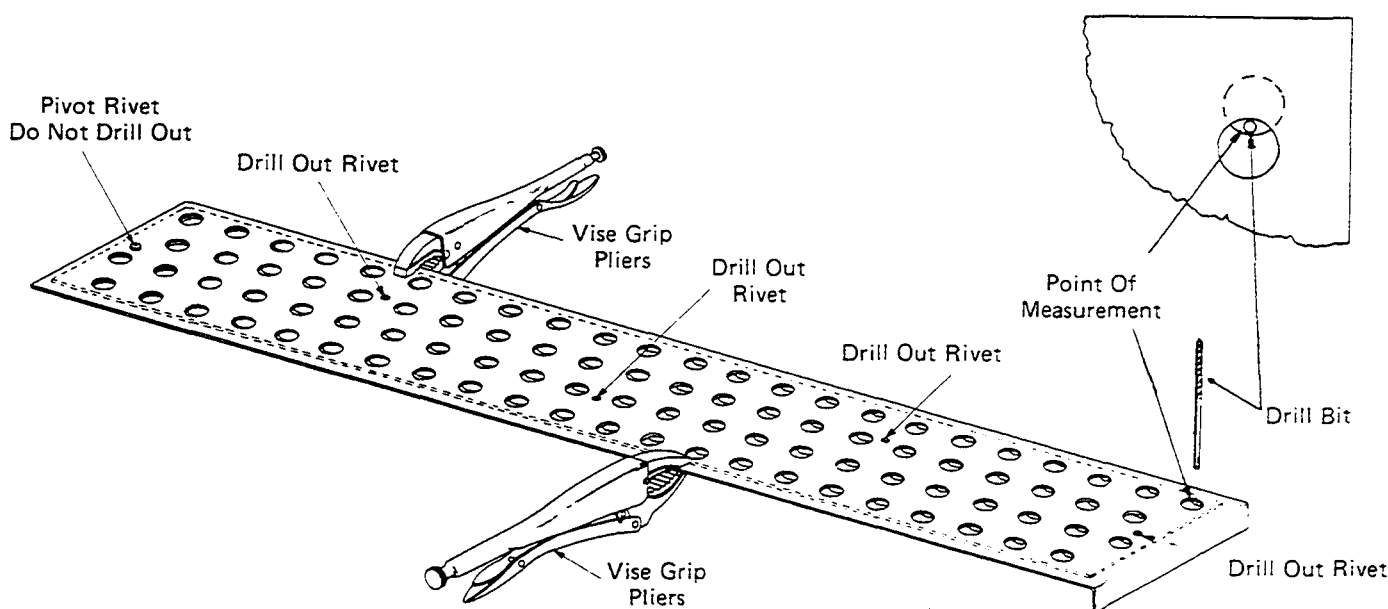

Figure 113. Measuring the Opening.
- c. If the product is too light or too dark at the front end of the fingers, drill out the four 1/8" pop rivets that are located toward the front of the fingers. See Figure 113.
Be sure the measurement is taken at the largest point of the opening. See Figure 113.